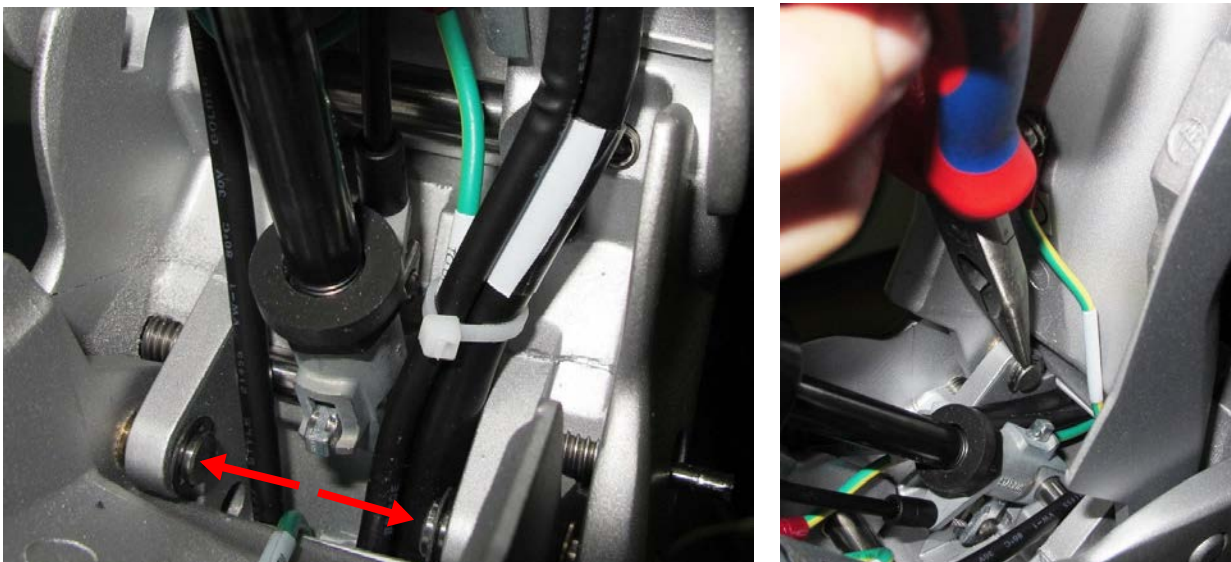

Figure 8-81 Two Cir-clips on Either Side of Gas Spring
a.) Release two cir-clips on either side of the gas spring - Figure 8-81 below.
- 4.) Secure the lower section of the lower arm to its position on the central column and secure it in position by inserting the two securing shafts previously removed - refer to Figure 8-81 on page 8-66.